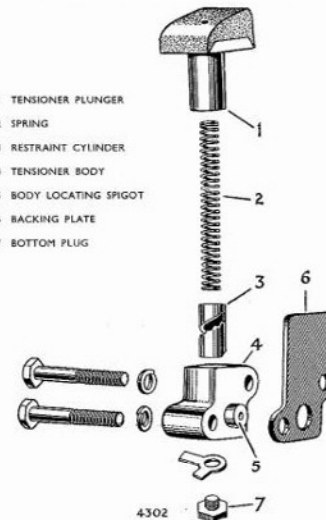

Fig. B.97. Timing chain tensioner details
5. Ensure the timing gear oil feed hole in the slipper head of the chain tensioner is not obstructed (see Fig. B.97).
It will be observed from Figs. B.97 and B.126 that the construction of the chain tensioner is such that oil pressure provides the force to keep the timing chain in